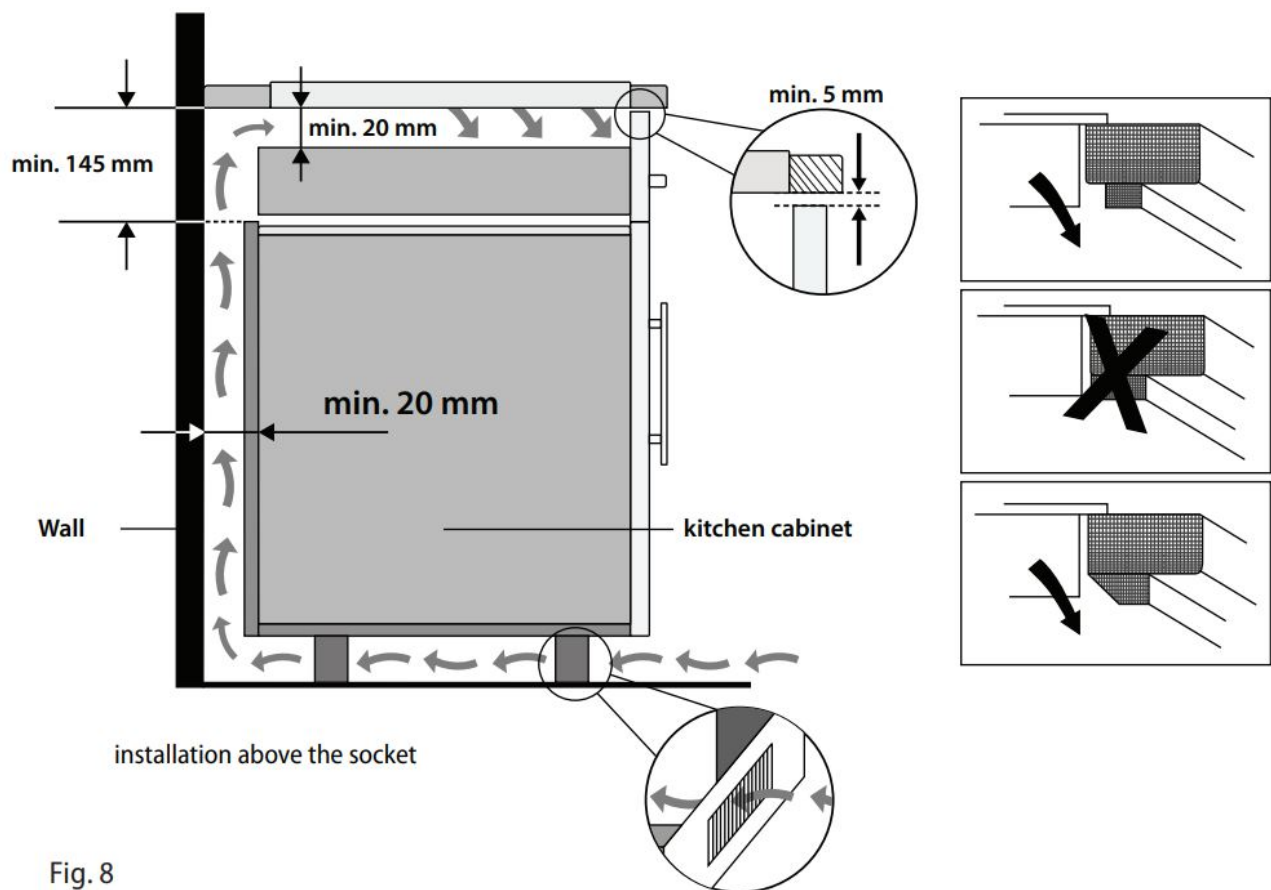

Fig. 8
6. For sufficient air circulation the appliance needs to be installed as shown in Fig. 8 and the cabinet must be designed so that the air can flow at the bottom – we recommend placing a ventilation grille in the lower plinth. Make sure that the ventilation space of 20 mm, between the drawer, the rear wall and 50 mm between the drawer and the hob, is free and under the worktop there must be a ventilation gap of min. 5mm, ideally if the design of the cabinet allows it, even more (Fig. 8).